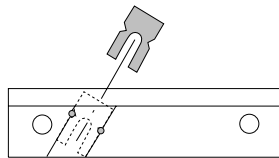

Figure 2
- c) Place the new blades into the tool. The blades are keyed during manufacturing to assure a proper fit and adjustment (Figure 2).